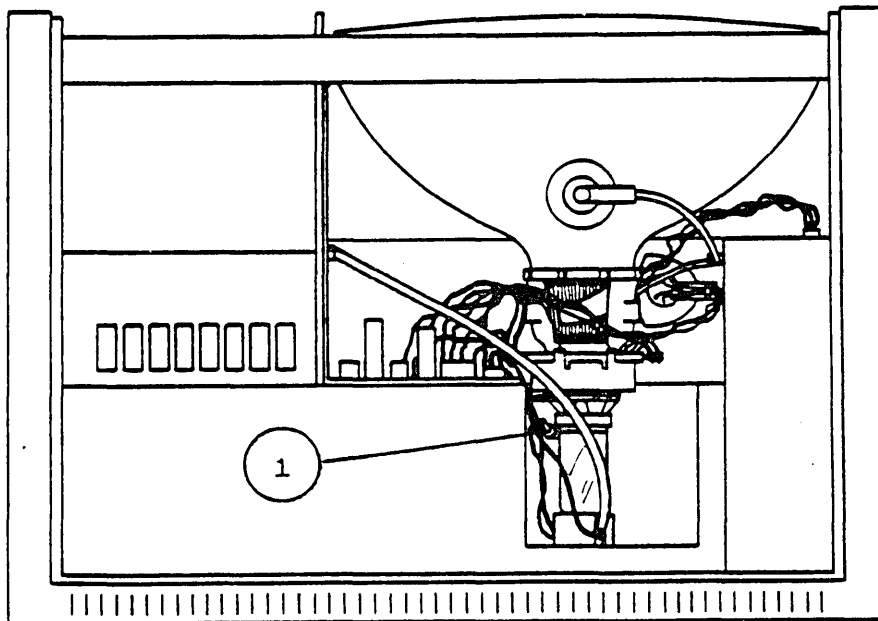

Figure 4
2. With a medium or small flatblade screwdriver, carefully loosen the yoke clamp screw (Figure 4, #1). Rotate the yoke by gripping it on the plastic section near the centering rings, until the center vertical of the crosshatch is parallel to the center vertical on the graticule.